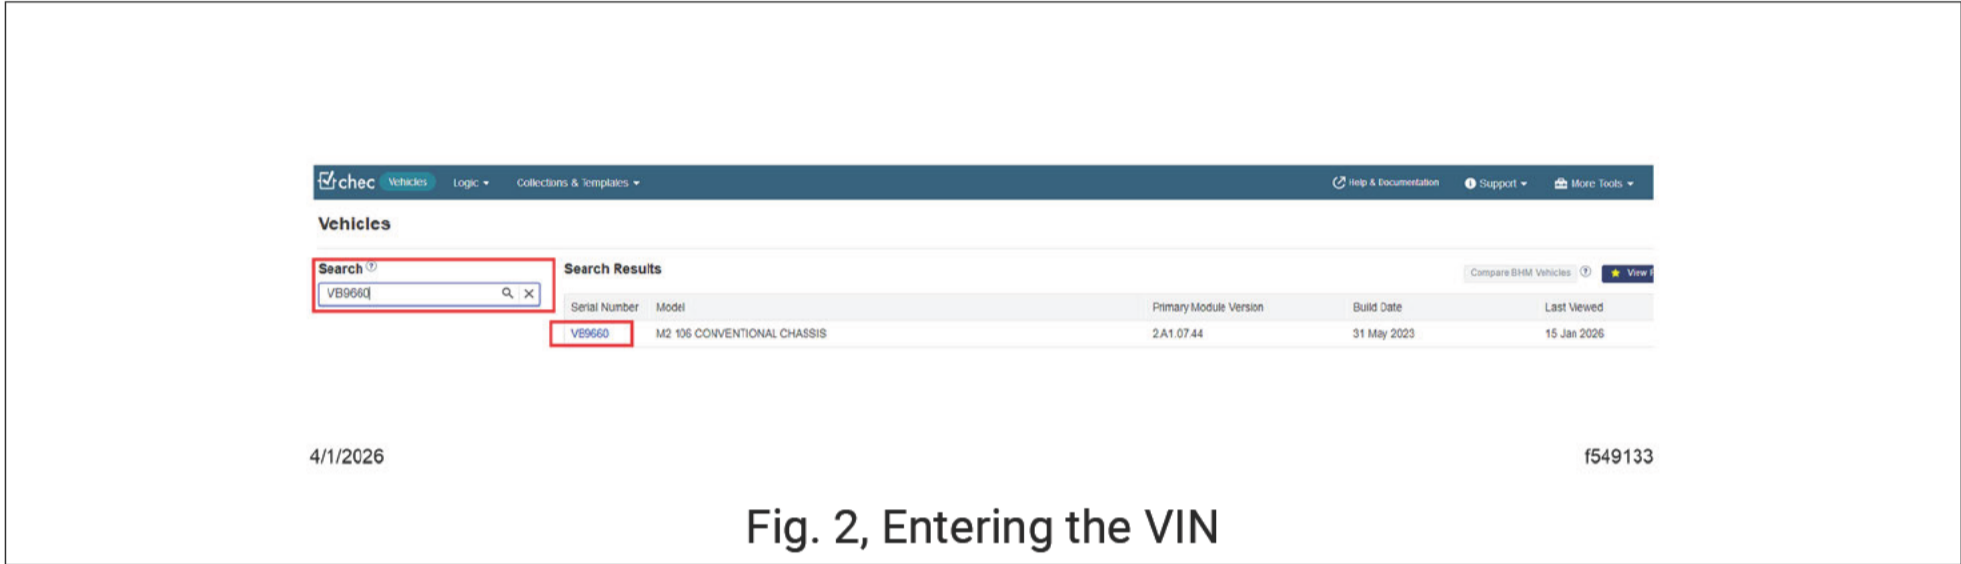

Fig. 2, Entering the VIN
7. Enter the vehicle identification number (VIN) and verify the search results to build the vehicle. See Fig. 2.